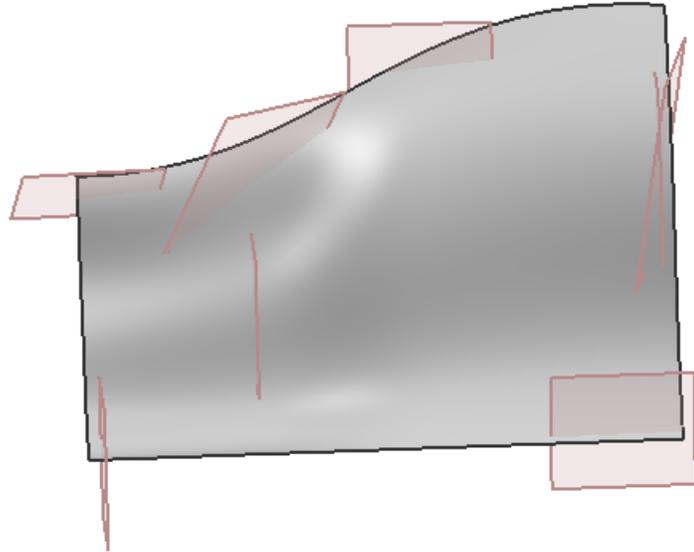

Figure 2–19
1. Open **MODEL_SETUP_A.prt**. The model displays as shown in Figure 2–19.